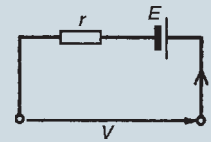

Figure 15.90
3. For the circuit shown in Fig. 15.90, the internal resistance r is given by: